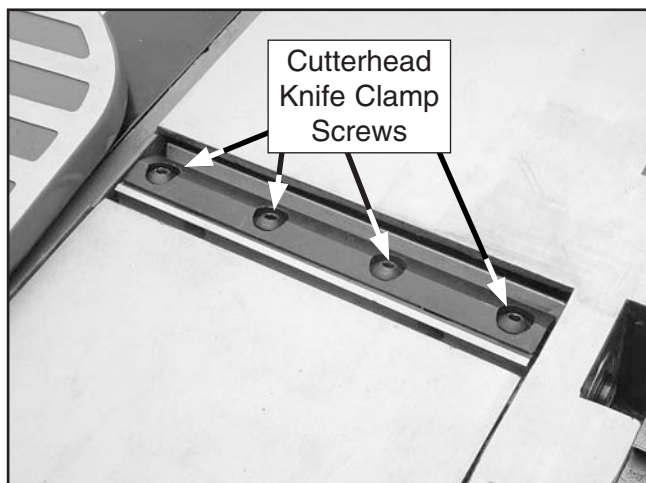

Figure 17. Cutterhead knife clamp screws.
3. Locate the knife clamp screws and knife adjustment jack screws (see **Figures 17–18**).